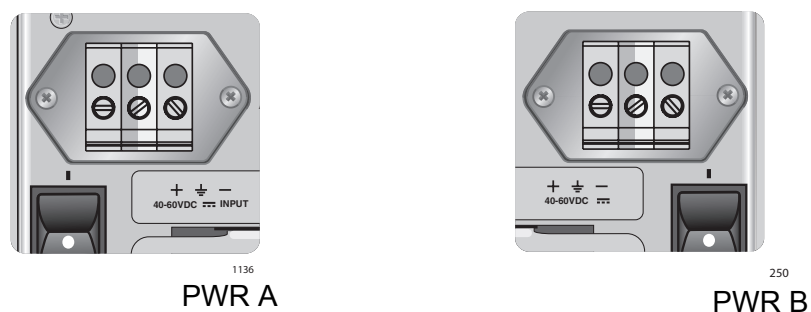

Figure 41. DC Terminal Block
3. Starting from the left side of a terminal block, identify the **positive**, **power supply ground** and **negative** terminals using the symbols below the terminal block in Figure 41.